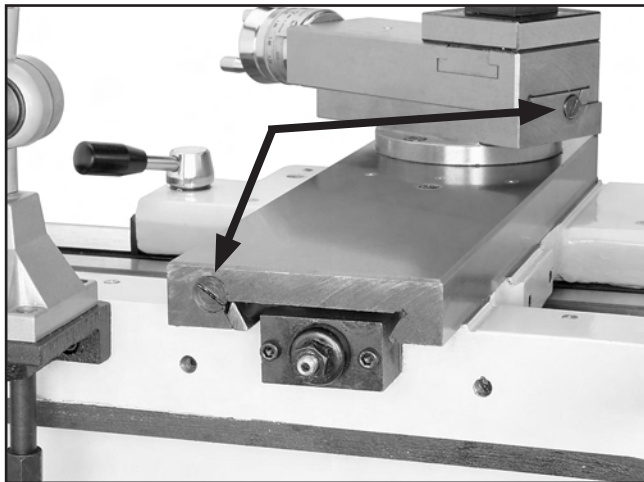

Figure 86. Rear cross feed and compound rest gib screws.
1. Loosen the rear gib screw approximately one turn (see **Figure 86**).